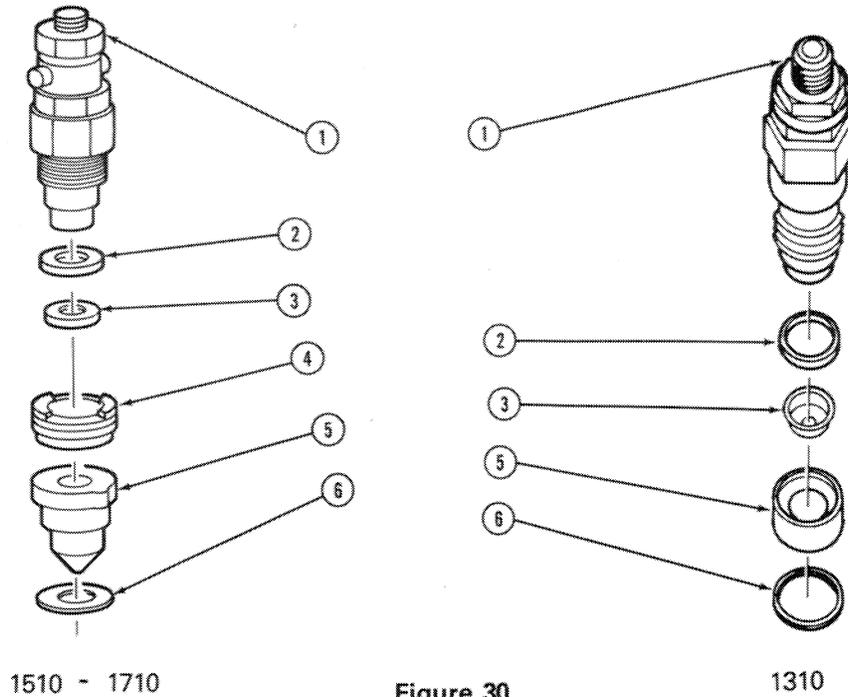

Figure 30
3. Install the pre-combustion chamber using a new sealing washer, Figure 30.